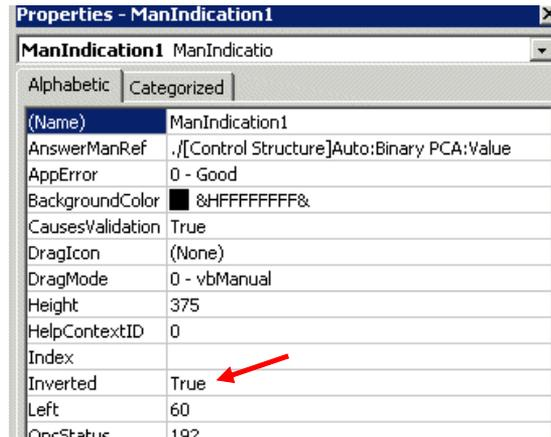

Figure 125. Inverted connection
11. Select the **ManIndication** element. **Connect** the **AnswerManRef** property. Use the Inverted property if you need to invert the indication. See Figure 125.